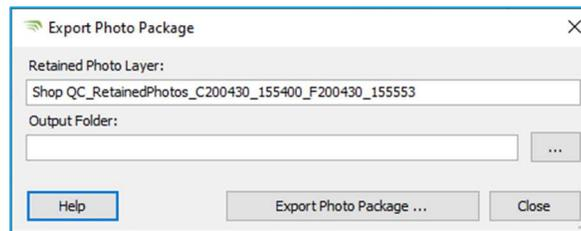

Figure 46 - Export Photo Package dialog
2. Select **Export Photo Package**  on the Sensor tab to open the Update EXIF tags dialog (Figure 46).